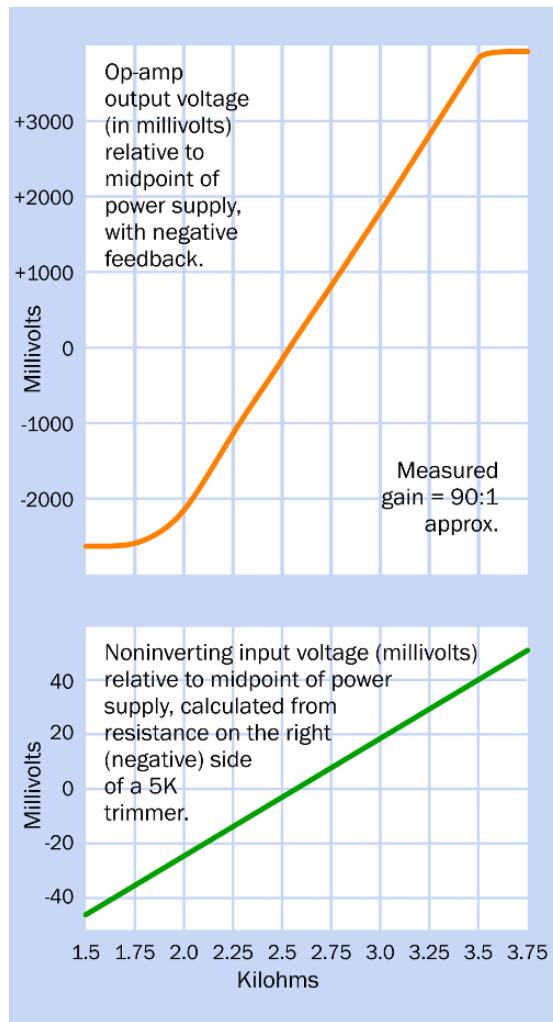
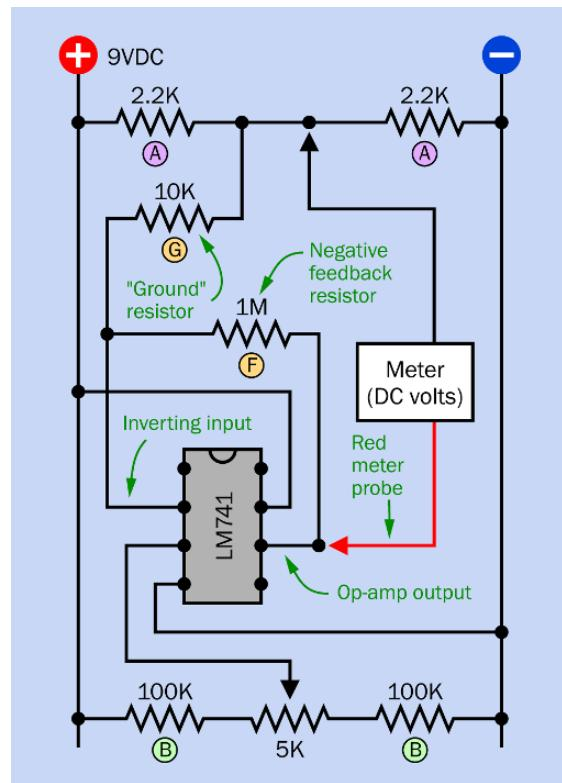
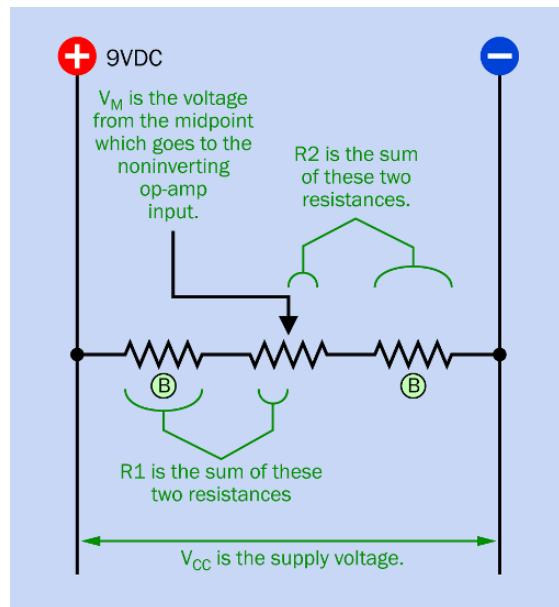

Figure 11-3. The central area of the green input curve is now reproduced correctly in the output curve, as a result of negative feedback.
Figure 11-4. The previous schematic has been modified to introduce negative feedback, by adding two new resistors.
Figure 11-9. The voltage to the noninverting input of the op-amp can be calculated if you know the values shown above.
Take a look at the graph in Figure 11-3, where a linear input causes an almost precisely linear output. This is exactly what we want and is surprisingly easy to achieve. To see it for yourself, make the following revisions to your circuit:
- Add two more resistors, identified as "F" and "G" in Figure 11-4. The photograph in Figure 11-5 shows how this can be breadboarded.
Take care to make the changes in the circuit. Now when you turn the trimmer, you should find that the meter shows the output voltage increasing very smoothly. It doesn't jump from one extreme to the other anymore. In Figure 11-3 there are some tiny deviations in the orange line (which may or may not be visible in the version reproduced here), but I think these are just caused by imperfections in the measuring process. On a breadboard, every socket has some small resistance, and merely wiggling the components will change the measurements that you make, at least to a small degree.
There is an additional factor, here, which is the grounding resistor, labelled G in Figure 11-4. This diverts some of the negative feedback to the midpoint of the "A" voltage divider. In other words:
Looking back at Figure 11-3, the orange line levels off at each end. This seems to suggest that its smooth linear performance breaks down, and indeed it does, but for a very good reason. The output voltage range of the op-amp cannot be greater than the voltage being delivered between the high end and the low end of the power supply. In fact the maximum and minimum output voltages will always be slightly less than the range between the supply voltages, because the op-amp has to siphon off a little power for itself to perform its magic. Consequently, if you increase the input beyond a certain point, you don't get a higher output voltage. When this happens with an audio signal, you hear distortion.
Figure 11-8 shows some input voltages and output voltages that I measured myself, for various settings of the trimmer potentiometer in the circuit in **Figure 11-4**. These were the numbers that I used to draw the graphs in **Figure 11-3**. Then I used the graphs to calculate the gain of my op-amp.
Pull the trimmer out of the circuit and measure the resistance between its wiper (the center terminal) and the terminal that connects with the righthand 100K "B" resistor, on the negative side. (See **Figure 11-4**.) Adjust the trimmer until you measure 1.5K (1,500 ohms).
Measure the voltage of the op-amp output by resetting your meter to DC volts and positioning the probes, as shown in Figure 11-4. Make sure you have the red probe and the black probe in the positions shown. Take care to observe if there is a minus sign before the digits.
You can calculate the input voltage from the resistances and the supply voltage. This would all seem very easy if I could demonstrate it for you with a meter on a lab bench. I can’t, so the next-best way is to show you in a diagram, which I have drawn in Figure 11-9. This is a piece of the circuit from Figure 11-4 that contains the “B” voltage divider.